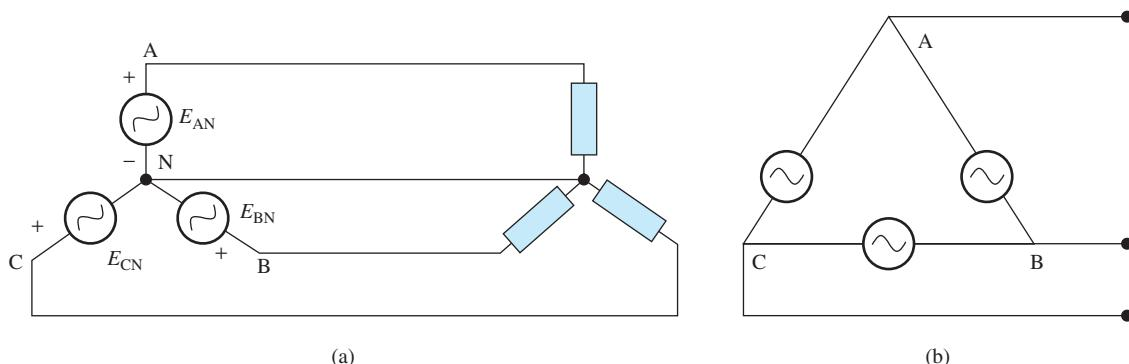

FIGURE 9.3 (a) Star-connected generator feeds a star (Y -connected) load. (b) Star-connected generator.
Figure 9.3(a) represents a simple three-phase circuit. Usually, generator coils are connected in star (Y) to avoid power loss and lower production costs. As explained in this section, generators are rarely Δ -connected [see Figure 9.3(b)]. Note that the Δ -shaped wiring creates a loop that allows the circulation of the current. In this formation, if the phase voltages of each Δ -connected side are not perfectly balanced, for example, due to the phase-winding imbalance across these voltages, there will be a net voltage, and consequently a circulating current around the Δ -shaped wiring. This results in a power loss. Moreover, the phase voltages are lower in a Y -connected generator, and thus, less insulation is required to maintain safe transmission of power through the transmission lines. This leads to lower cost of transmission lines and cables. The next subsection explains the notion of star and Δ connection of generators and loads.
At power generation stations, three sinusoidal voltages are generated having the same amplitude but displaced in phase by 120° . This is called a balanced voltage source, as shown in Figure 9.3. The point at which all coils are connected is called the neutral point, N.